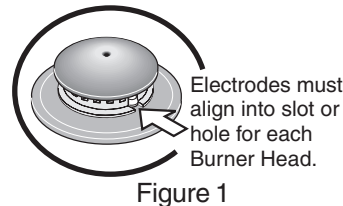

Figure 1
4. To replace Burner Heads & Caps, match the letters located under center of Burner Caps with the letters located inside Burner Head (See Figure 3). Place all Burner Heads & Caps on the cooktop while carefully aligning the Electrodes into slots or holes of the Burner Heads (Figure 1). Note: The Burner Heads should sit flat on Cooktop Burner Skirts.